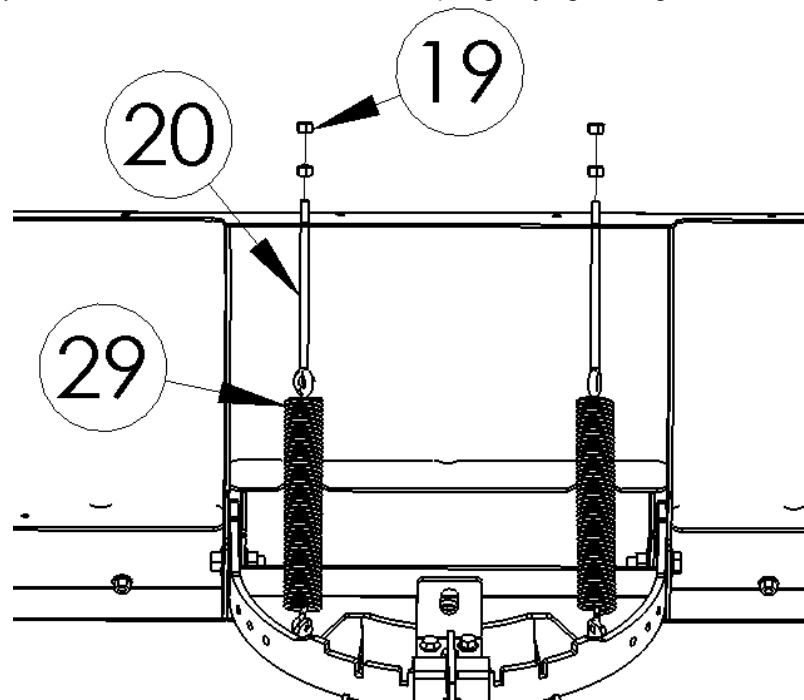

Figure 12
- 12) Install the 10" Extension Springs (#22) using the Eye Bolts (#23) and 3/8" Regular Nuts (#12) included in your kit. Install the Spring Eyelet into the Swivel Plate on one end and into the 6" Eye Bolt on the other end (**Figure 12**). Tip the blade back and insert the 3/8" Eye Bolts into the top two holes on the blade. Tighten the 3/8" Regular Nuts until the nuts are entirely threaded, but no further at this time. Proceed to Step #13 (Blade Stop Blocks) and then tighten the 3/8" Regular Nuts to tension the springs. If your blade tends to tip forward while plowing you can increase the tension of the springs by tightening the 3/8" nuts.